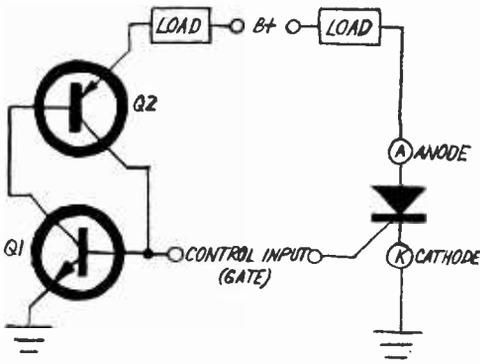

Fig. 1. The transistor circuit at left is equivalent to actual SCR at right.
**How It Works.** The operation of the SCR is perhaps best understood by examining the device's pnpn junction, shown in equivalent form by the two transistors in Fig. 1. Assume that the control (gate) electrode is connected so that its voltage is the same as, or slightly negative with respect to, the voltage on the cathode. Transistor Q2 is cut off and only leakage current flows in the circuit. If the gate voltage is made positive with respect to ground, the base-emitter junction of Q2 becomes forward biased and Q2 begins to conduct. Moreover, Q1 also becomes forward biased and conducts. As Q1 starts conducting, its collector current aids in turning on Q2, just as collector current from Q2 assists in turning on Q1.
Leakage currents increase with temperature increases and roughly double for every 10° C rise. In Fig. 1, the transistors cannot distinguish between currents caused by leakage or from a triggering pulse. Hence, care must be exercised in determining the tem-